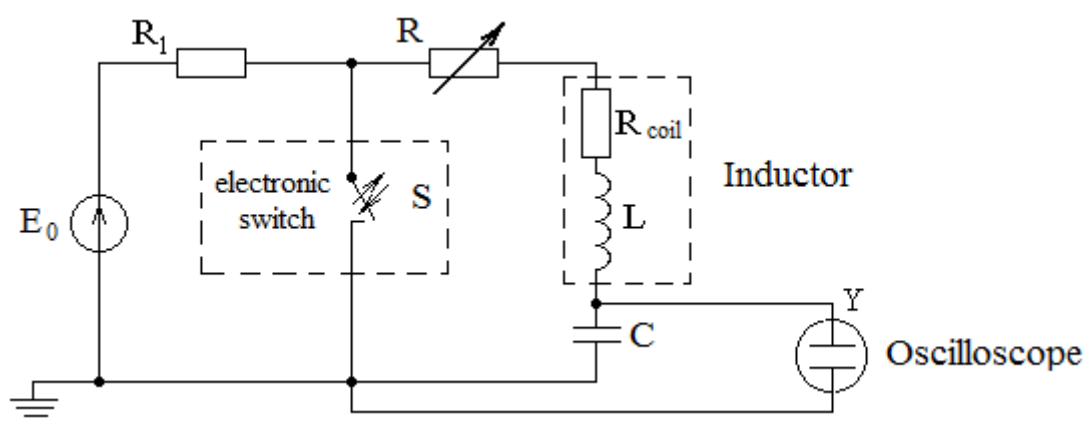

Figure 3.1 – Scheme of research of the  $RLC$ -circuit
3.2.1 Assemble the electric circuit as shown in figure 3.1.
3.3.1 For the circuit in figure 3.1 calculate the damping factor  $\alpha_{\text{theory}}$  and the natural frequency  $\omega_{0\text{theory}}$  by using given values of total resistance  $R_{\Sigma} = R + R_{\text{coil}}$ . Write down the results into table 3.2 (the row is “theoretical calculation”).
For the  $RLC$  circuit (figure 3.1), the characteristic equation has the form: